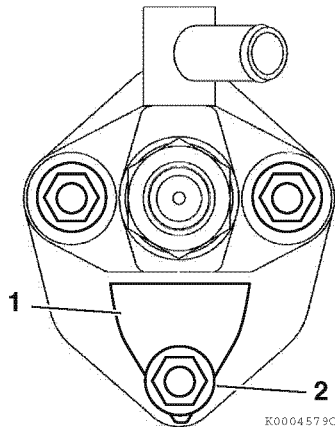
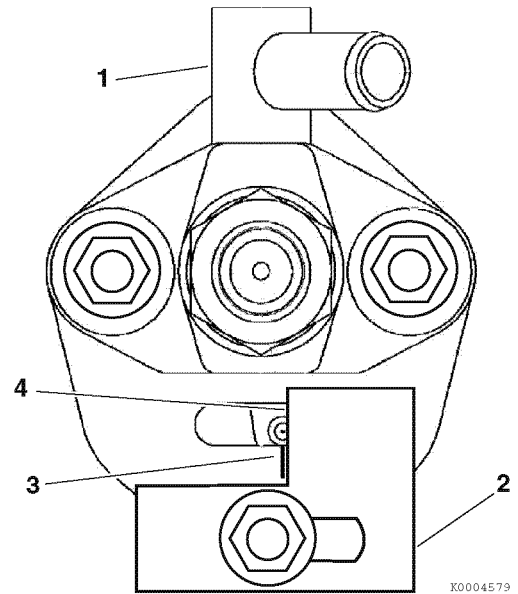

Figure 7-9
Figure 7-10
9. Remove the nut (2, **Figure 7-9**) fastening the injection pump inspection window cover plate (1, **Figure 7-10**). Remove the inspection cover plate and gasket.
10. Install the fuel adjustment jig (2, **Figure 7-10**), YANMAR P/N 114771-92310, in the fuel injection pump inspection window. Using the inspection window cover plate nut, fasten the fuel adjustment jig aligning the upper left edge of the jig (4, **Figure 7-10**) to the alignment mark scribed on the face of the fuel injection pump (1, **Figure 7-10**) base plate (3, **Figure 7-10**).
- Be sure to keep the fuel adjustment jig parallel to the inspection window opening. (**Figure 7-10** shows the alignment mark for clarity only. The edge of the jig should be directly on the mark when installed properly.)